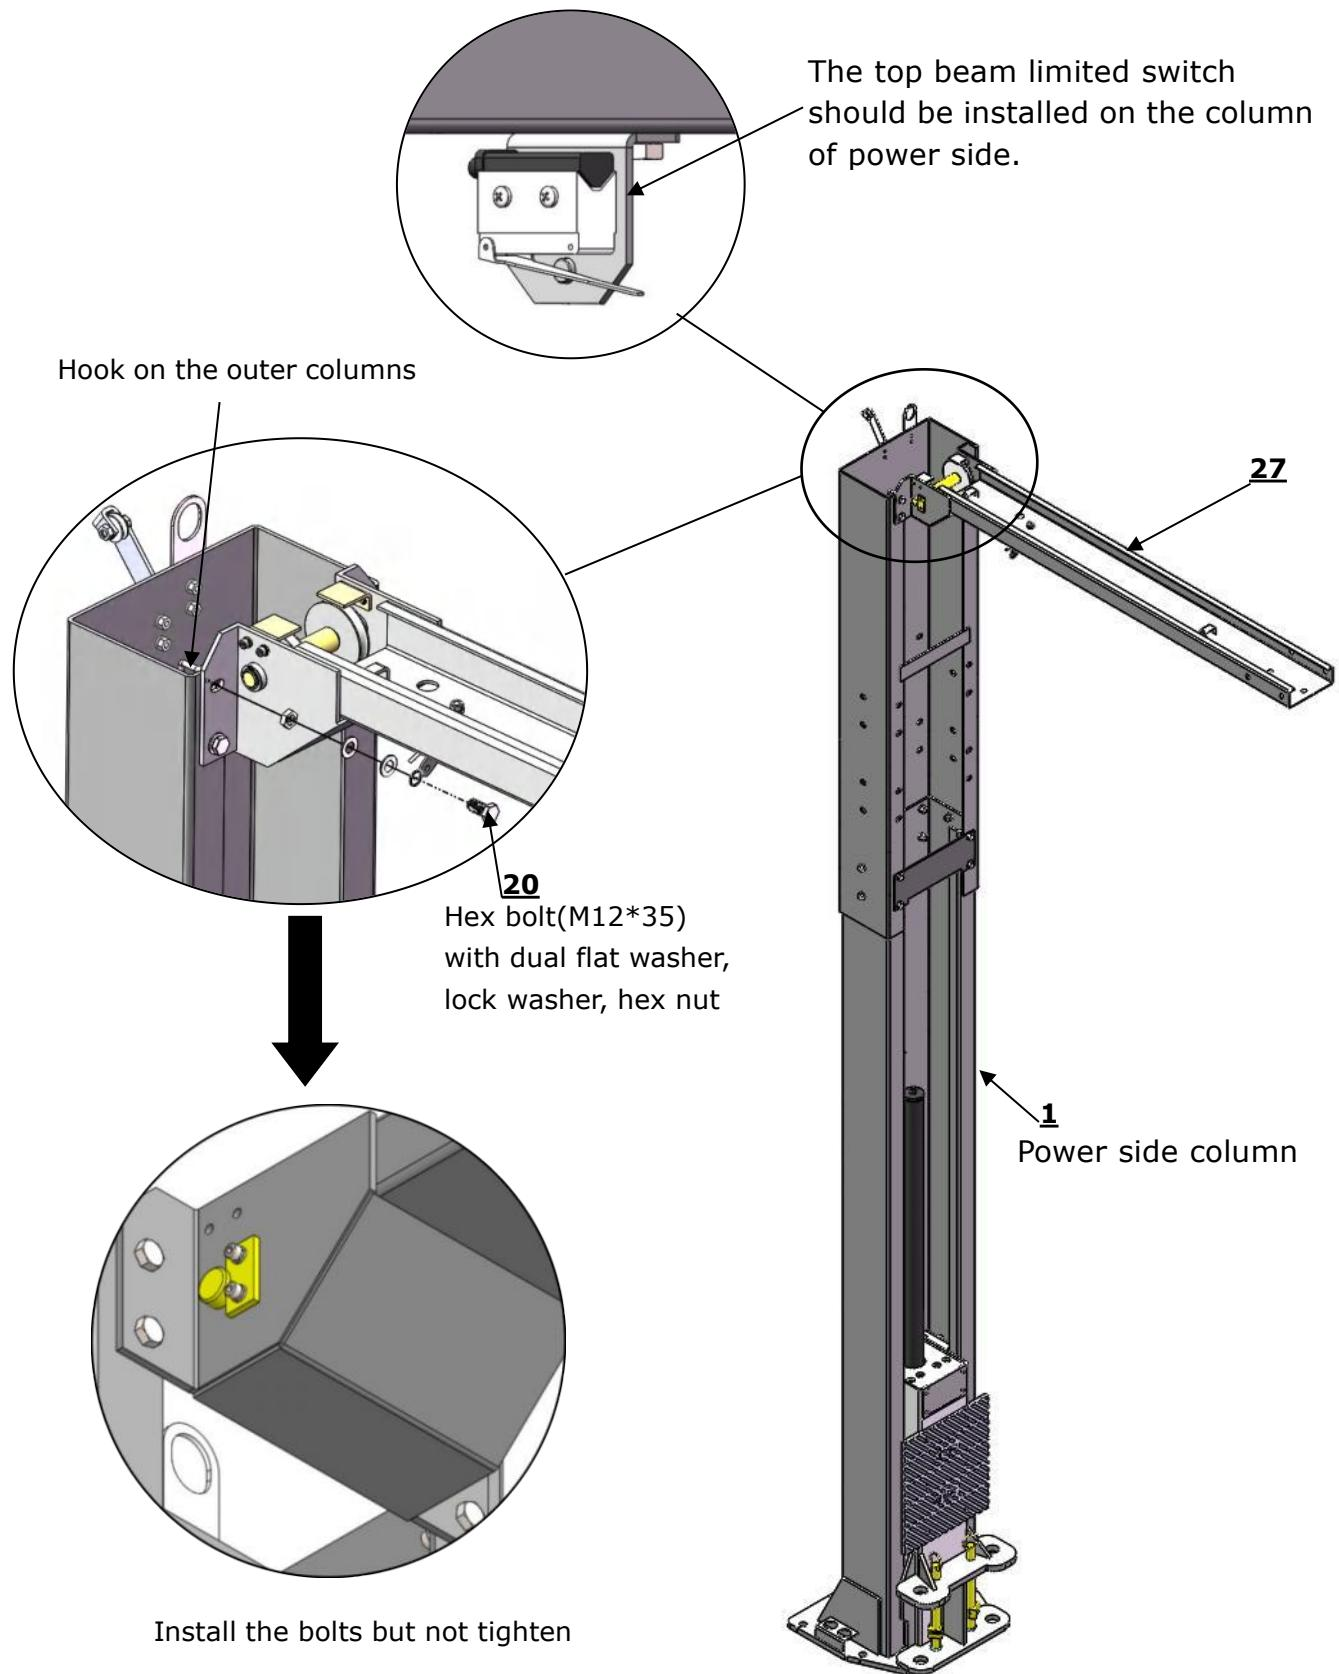

Fig. 24
1. Hang the hook of top beam(Left) on the outer column, and then align the holes and install the bolts(See Fig. 24)